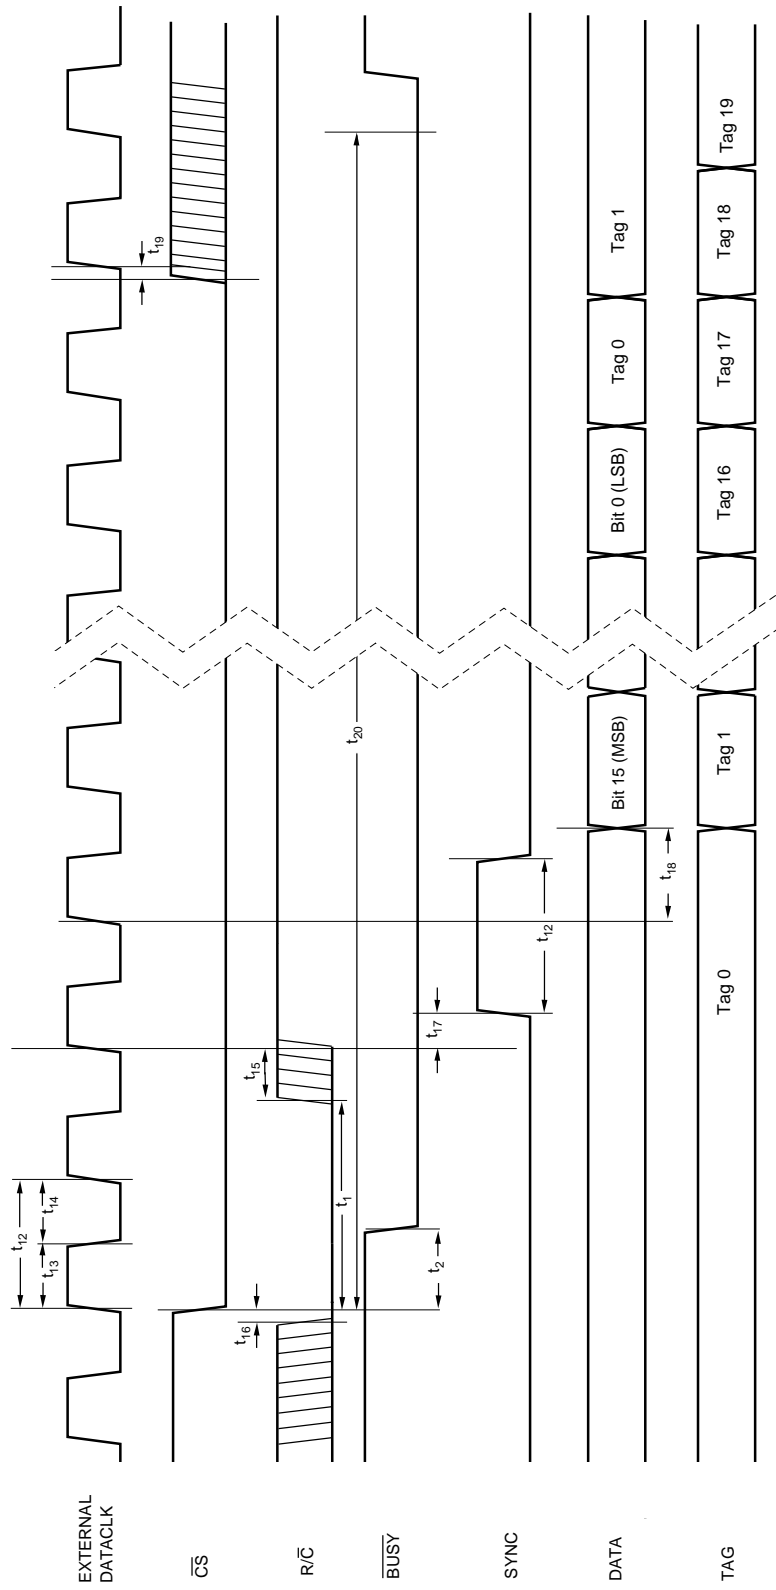

FIGURE 3b. Conversion and Read Timing with External Clock. ($\overline{EXT}/\overline{INT}$ Tied HIGH.) Read During Conversion (Previous Conversion Results).
NOTE: (1) See Figure 3b for constraints on previous data valid during conversion.